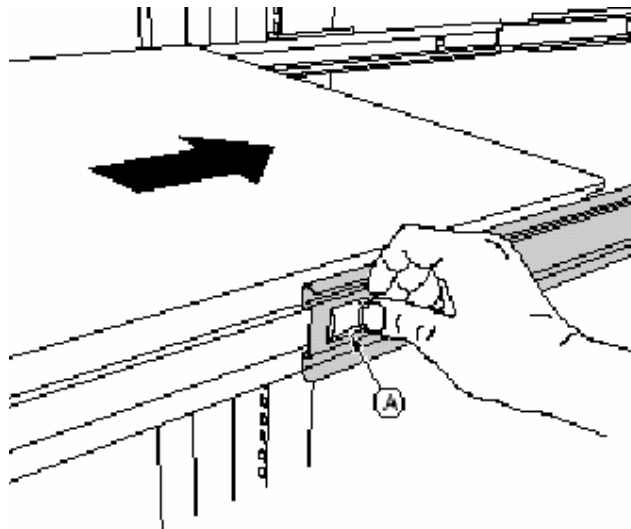

Figure 41: Sliding the Chassis towards the rear of the Rack
4. Depress and hold down the finger tabs (Figure 41, A) on both extension locks while sliding the chassis towards the rear.